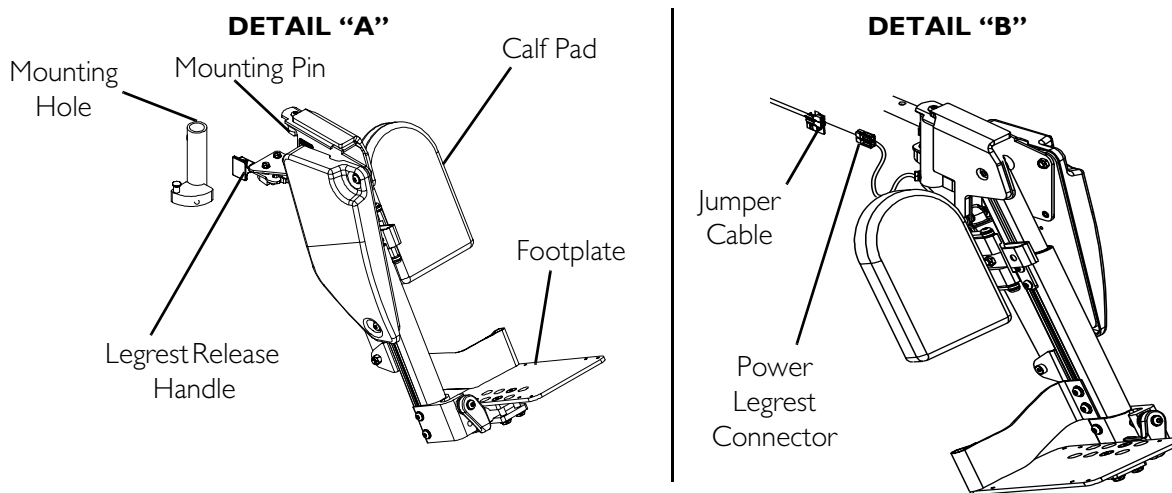

FIGURE 6.22 Installing/Removing the Power Elevating Legrests
NOTE: For this procedure, refer to FIGURE 6.22 on page 52.
1. Turn power legrest to side (open footplate is perpendicular to wheelchair) (Detail "A" of FIGURE 6.22).
2. Insert the mounting pin of power legrest into the mounting hole of the seat frame (Detail "A" of FIGURE 6.22).
5. Connect power legrest connector to jumper cable (Detail “B” of FIGURE 6.22).